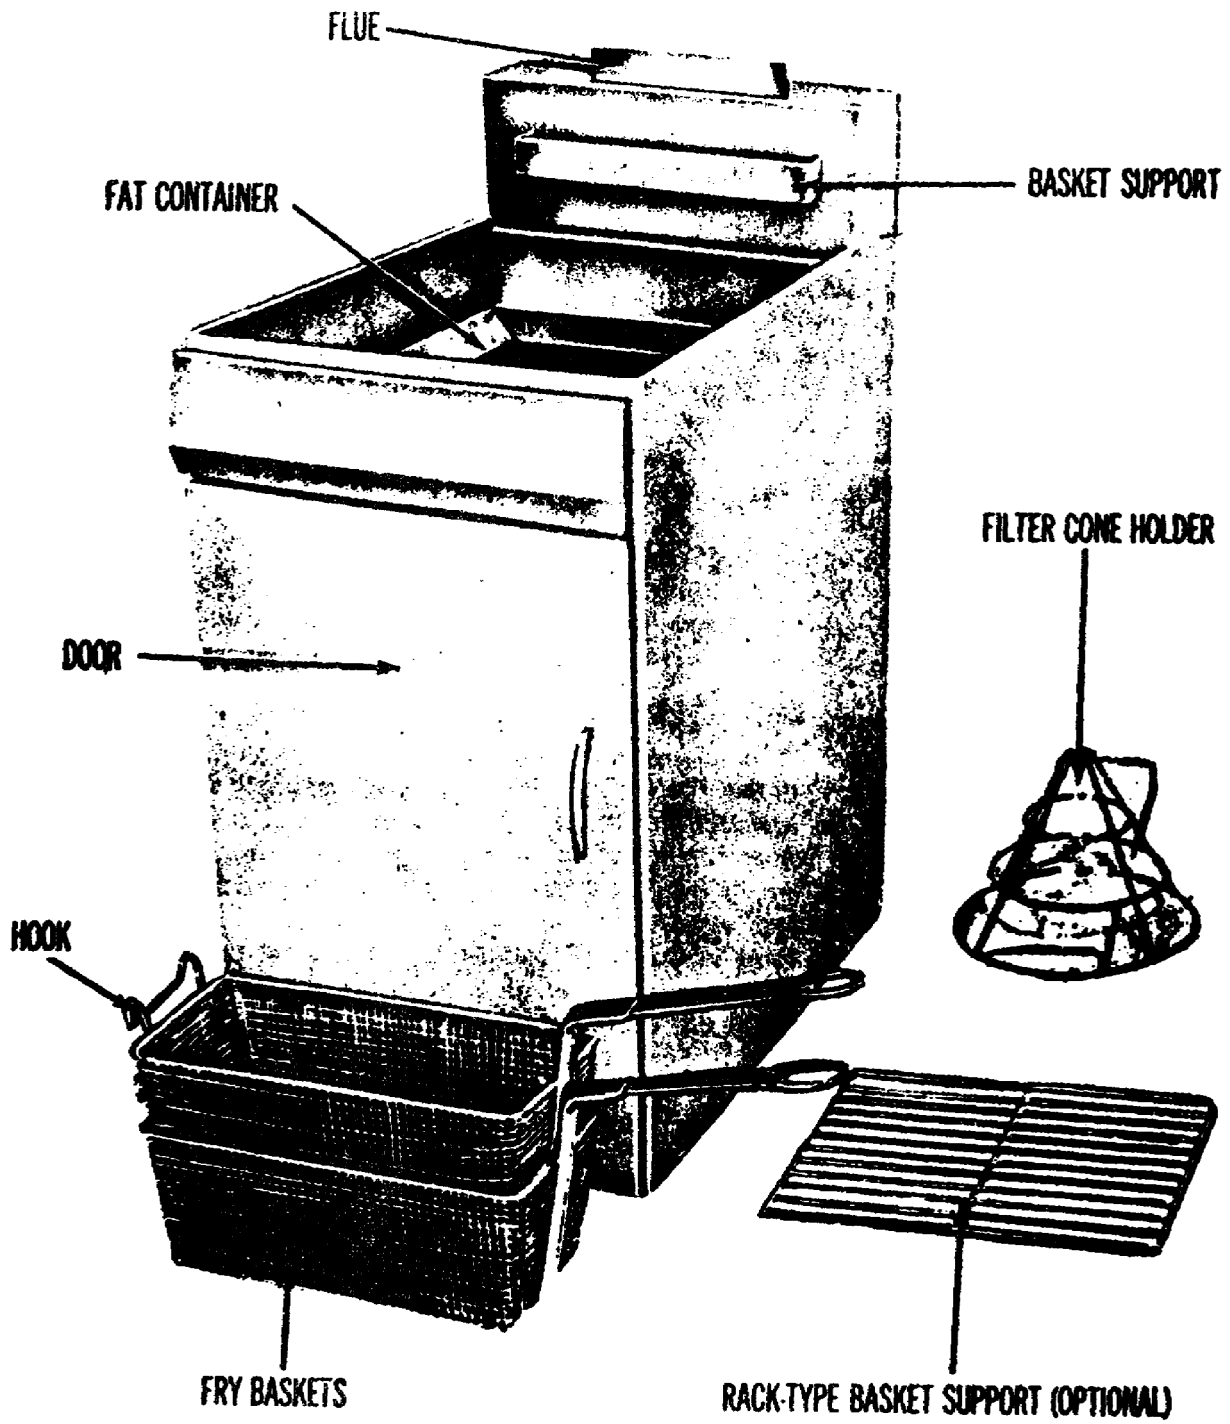
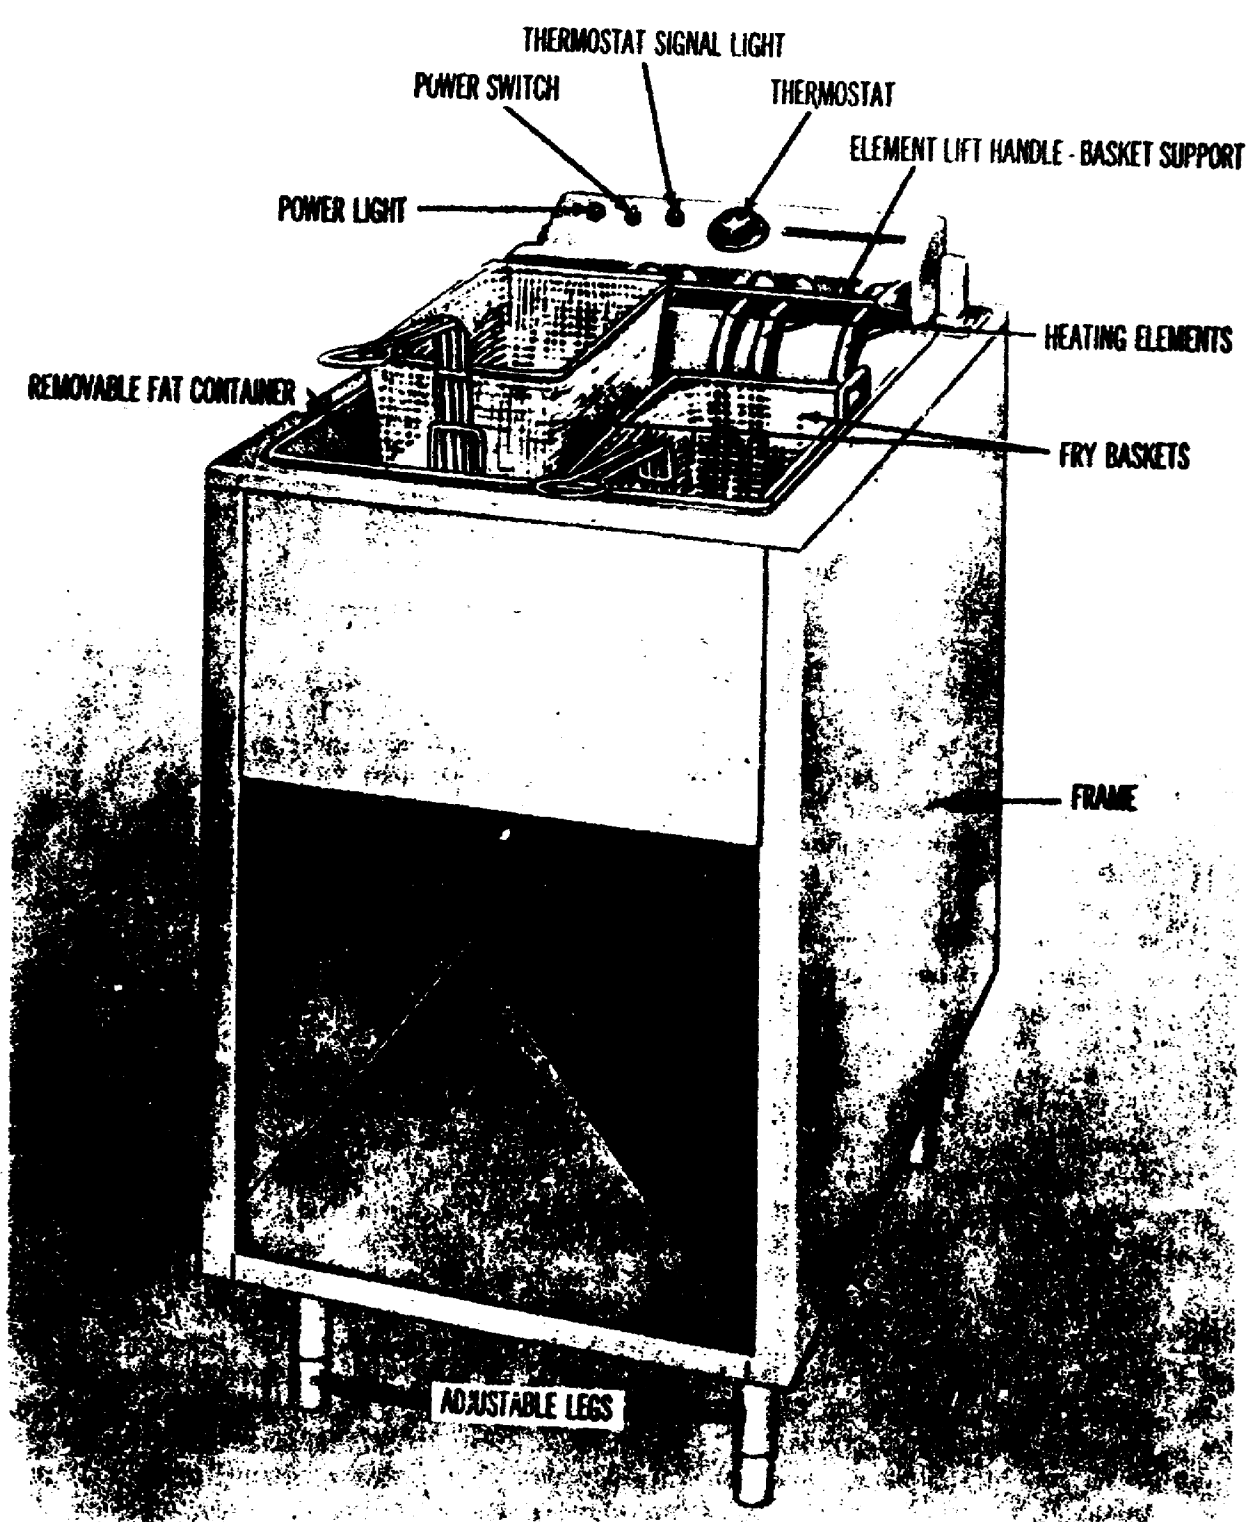

Figure 17. Gas-heated deep-fat fryer.
Figure 18. Electric deep-t fryer.
17. **DEEP-FAT FRYER.** This fryer consists of a fat container, heating unit, temperature control, and draining device. Fryers may be heated either by gas or electricity. The capacity of a deep-fat fryer is rated in the number of pounds of raw potatoes that it can fry in an hour. The capacities of authorized fryers are 30, 35, 60, or 90 pounds, and the temperature range is usually 200° to 400° F. Gas fryers (fig. 17) may be either burner or heat-tube type; both are heated by natural, manufactured, or LP gas. All models should be equipped with an automatic pilot control similar to the safety valve of a pilot burner in the gas range oven. When the thermostat dial on electric fryers (fig. 18) is turned off, the machine is off. When the thermostat dial is set to the desired temperature, a characteristic clicking sound indicates that the-current is on.